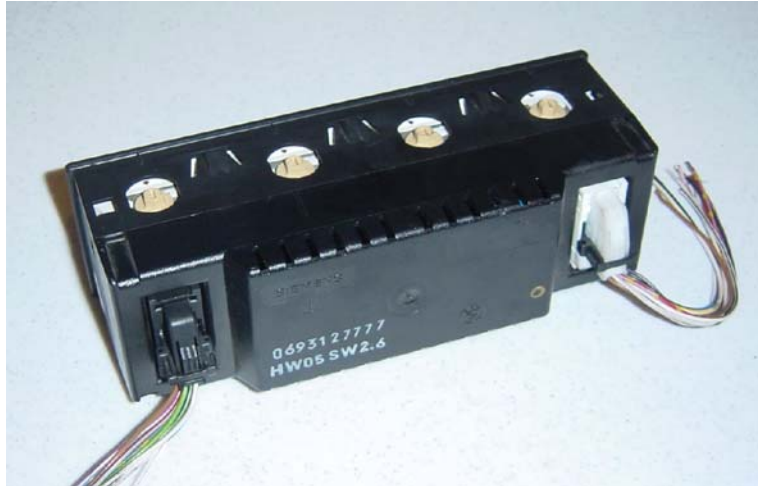

Figure 1b – 18 Button OBC shown with X1071 (right) and X1070 connectors w/pigtails.
- iii) X1071 Connector – If your car did not come with an 18OBC, then you probably don't have this connector and its wiring harness in your car. As a result, you'll have to find the X1071 white connector with a short length of wires attached (aka: pigtail) as shown in **Figure 1b** (right). The pigtail is needed because you will be splicing wires to each wire in the pigtail and routing them to locations throughout the car for attachment. I got mine from Bavarian Auto Exchange ~\$15 when I purchased the OBC (it actually came with the x1070 connector pigtail as well, as shown in Figure 1b). Be sure to ask for the X1071 with a pigtail if you order it unseen. You don't need the X1070 connector and pigtail since it's already in your car. If your getting your X1071 from a salvage, just cut about 4-6" of wire behind the connector. I believe it can be from any E36 BMW. I can't confirm exactly what type of car my X1071 connector originated. I saw several at a local salvage.